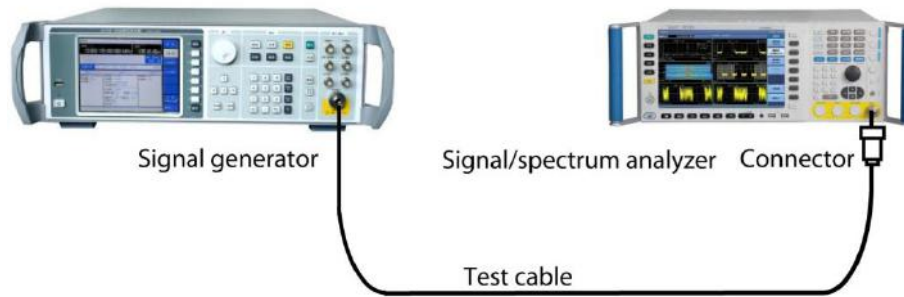

Fig. 4.80 Connection Settings of Spurious Emission Measurements
Step 2. Connect the radio frequency output port of the signal source to that of the analyzer. As shown in Fig. 4.80: